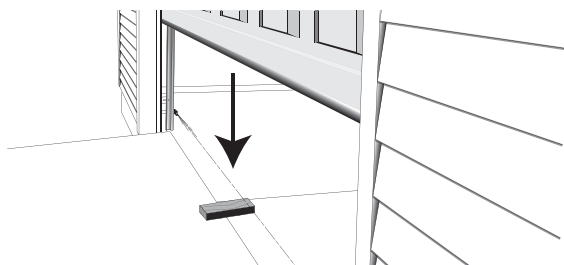

FIG. 6-2 2 x 4 under center of door opening
- Place a 2" x 4" board (laid flat) under **center of garage door opening** (Fig. 6-2).